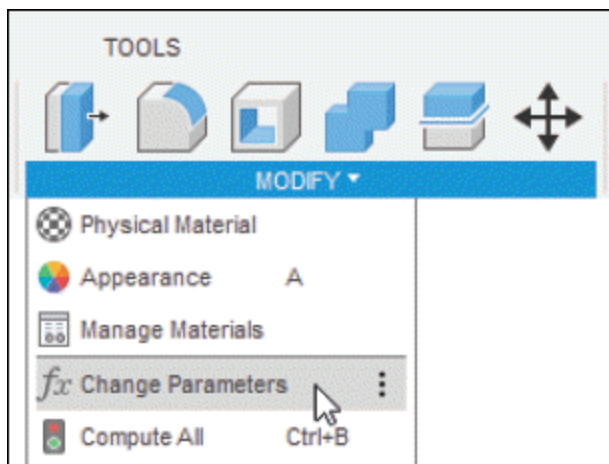
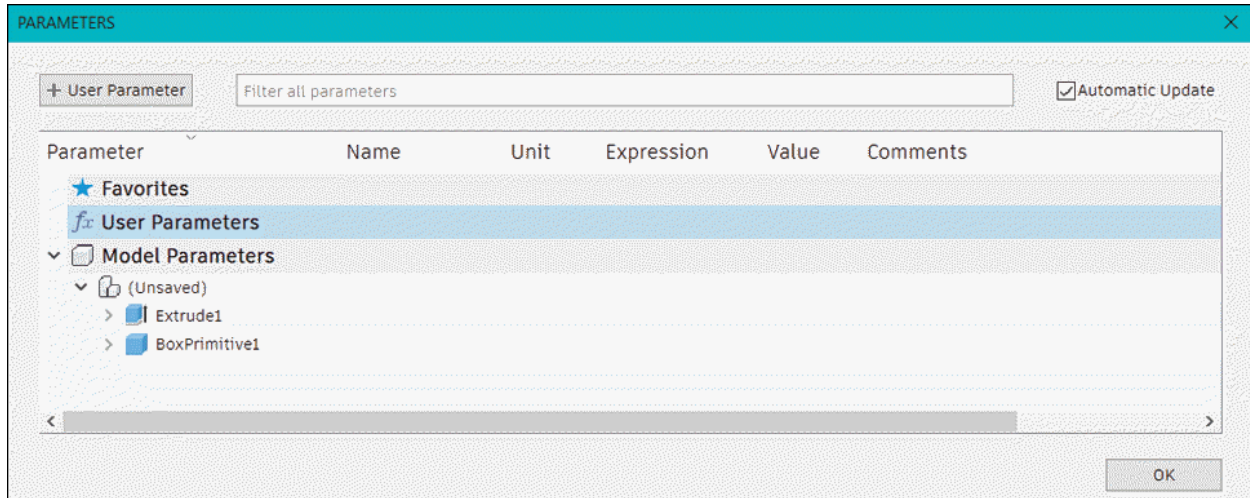

Figure-83. Change Parameters tool
Figure-84. Parameters dialog box
- Click on the **Change Parameters** tool of **MODIFY** drop-down from **Toolbar**; refer to Figure-83. The **Parameters** dialog box will be displayed; refer to Figure-84.